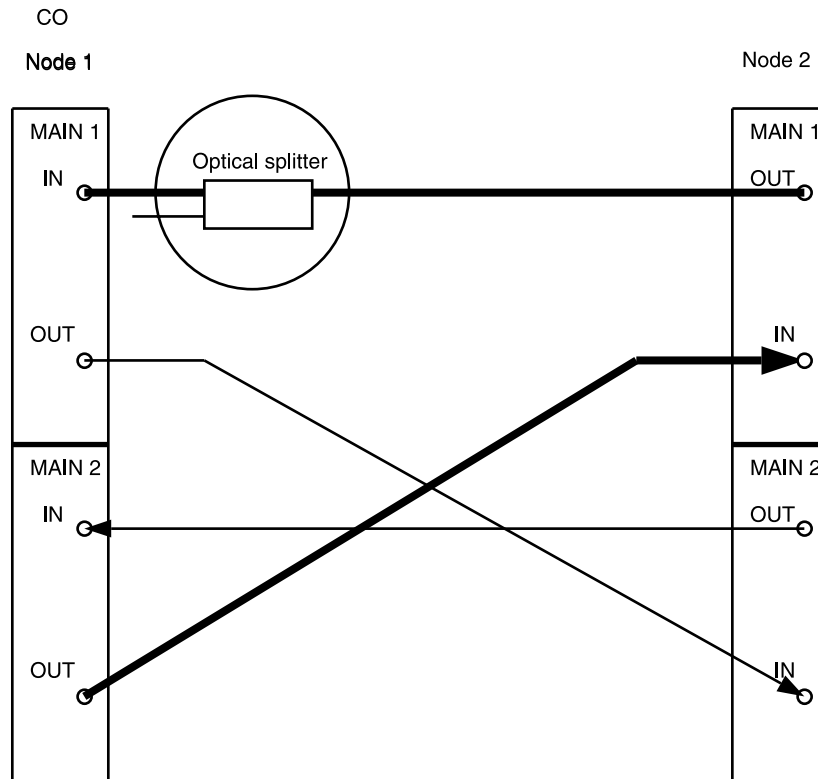

Figure 10 – DDM-2000 OC-3 Drop or Add/Drop Network to Ring Upgrade
- 20. Disconnect optical fiber from **MAIN 1 IN** at Node 1 and install optical splitter in **MAIN 1 IN** optical line as shown in Figure 10.